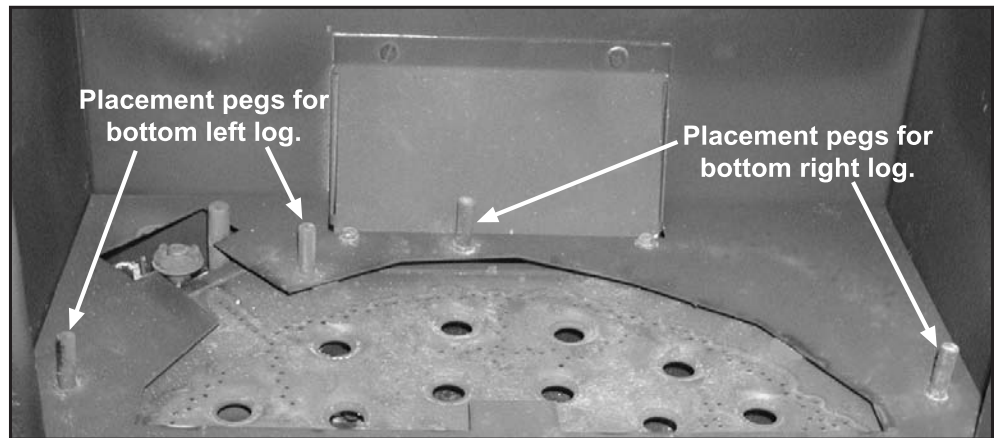

Figure 48. Ascot Burner Tray.
The placement of the logs is not arbitrary. If they are positioned incorrectly, the flames can be “pinched” and will not burn correctly. The burner come with four (4) locator pins (see Figure 48), and the bottom logs have ledges which make alignment easier. Using the pictures provided, carefully set the logs in place.